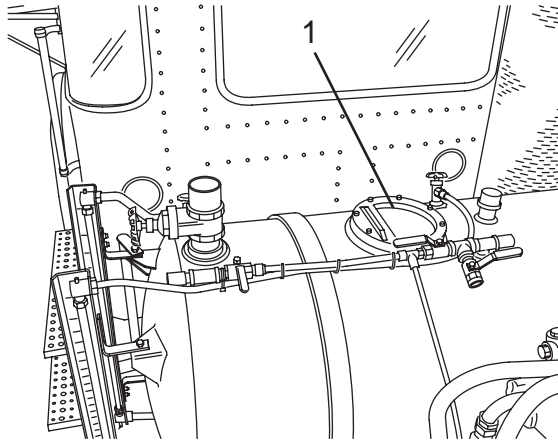

Figure 72
2. Place the water supply hose in the water tank flopper valve (Figure 72, Item 1).